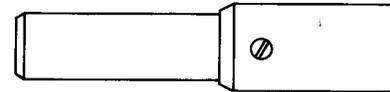

Fig. 9—457A Plug
**2.08 457A:** The 457A plug (Fig. 9) consists of a coaxial type plug, with an inner contact held concentrically by means of an insulator in a tubular body which is the outer contact. The 457A plug is equipped with a metal washer which shorts the inner and outer contacts. This plug is used in testing "shorting down" lines in the L4 Coaxial System.